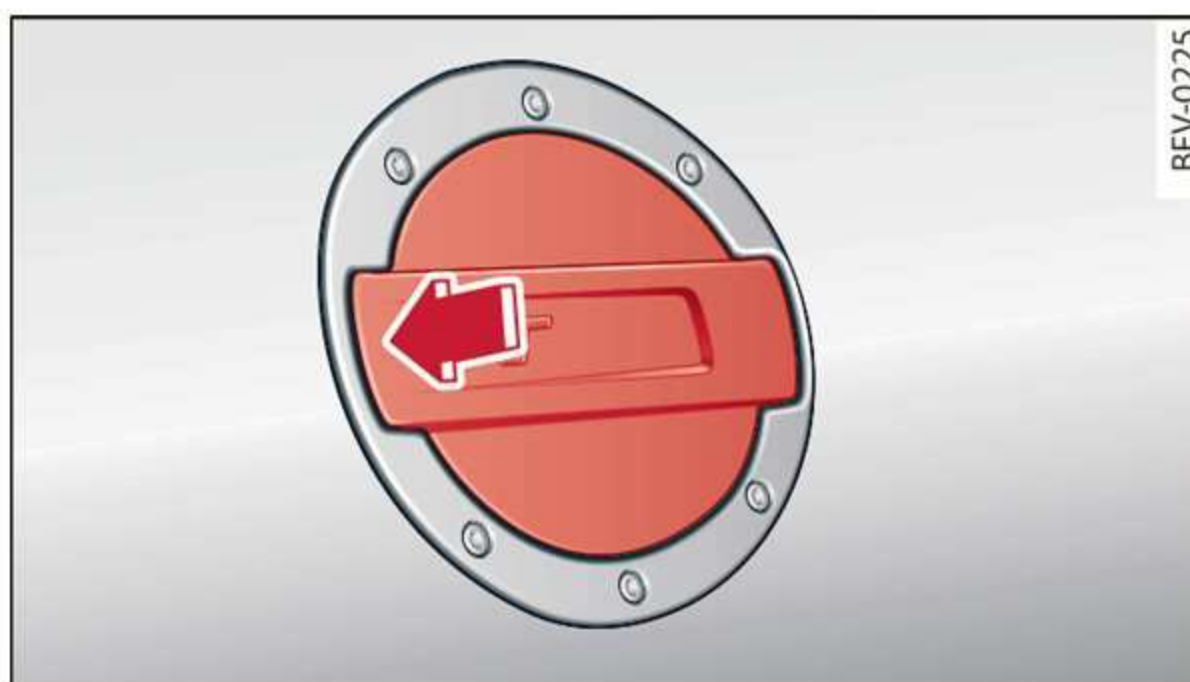

Fig. 166 Right rear side of the vehicle: opening the fuel filler door
- ▶ Press on the left side of the fuel filler door to open it ⇒ *fig. 166*.
- ▶ Press on the left side of the fuel filler door to open it ⇒ *page 224, fig. 166.*